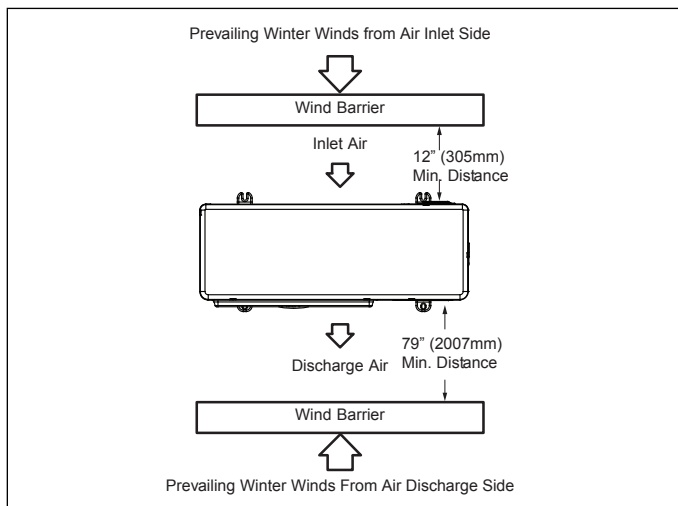

Figure 28. Wind Barrier
- When prevailing winds are from the air inlet side, then position the wind barrier a minimum of 12 inches (305 mm) from the unit as illustrated in “Figure 28. Wind Barrier”
- When prevailing wind is into the discharge side, then position the wind barrier a minimum 79 inches (2007 mm) from the front of the unit as illustrated in “Figure 28. Wind Barrier”